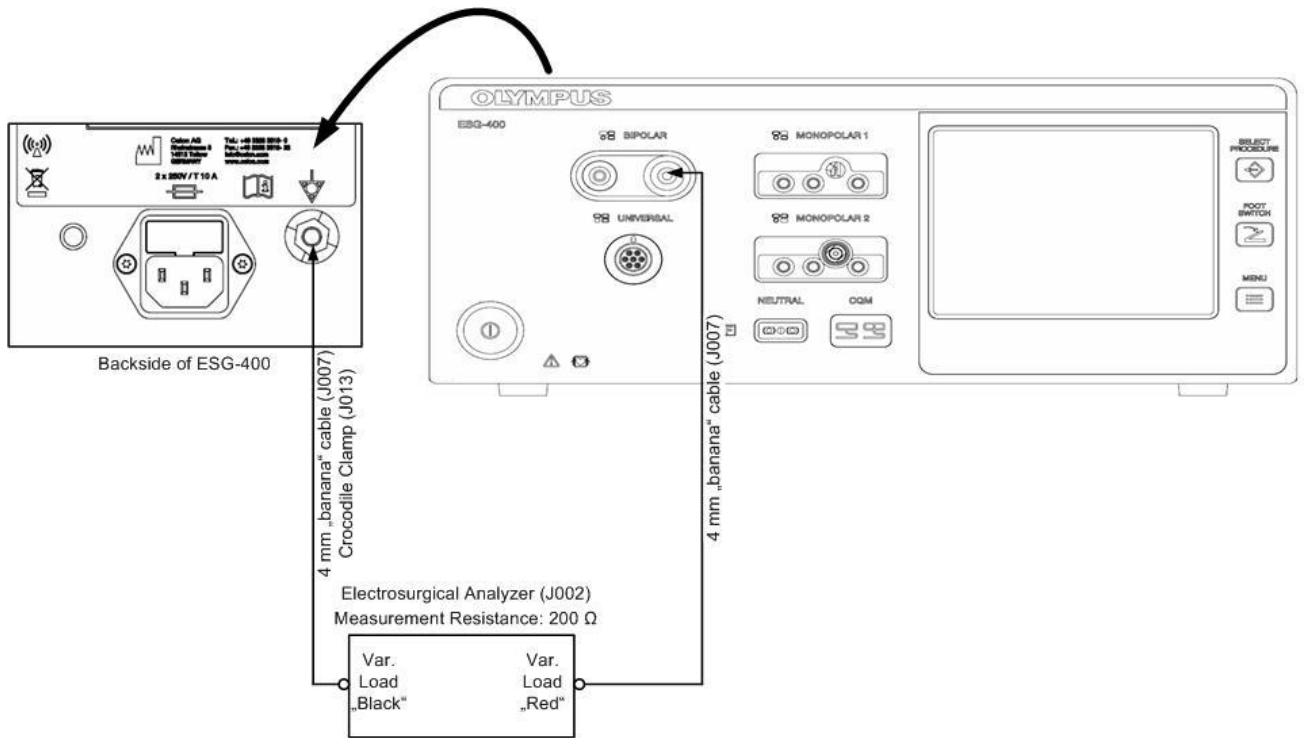
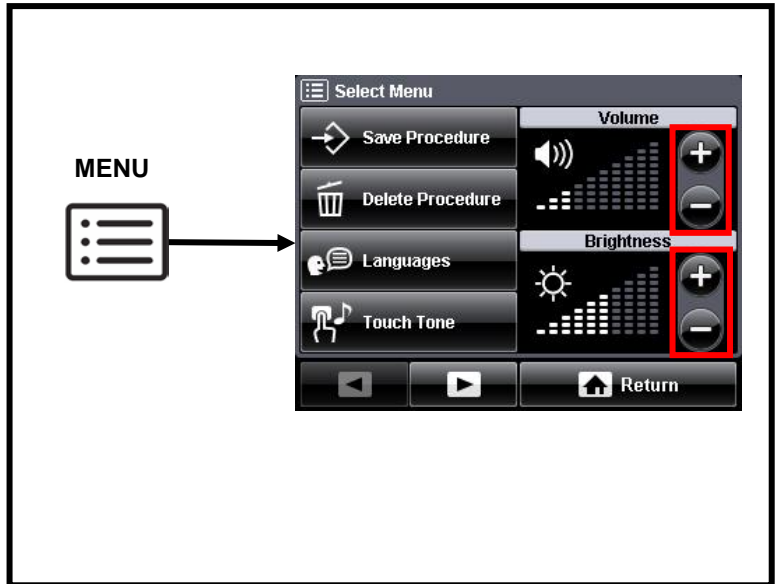

Fig. 5.2.10. Example for the unloaded measurement of the bipolar high frequency leakage current at terminal 2
Fig. 5.2.11. Checking volume and brightness
Fig. 5.2.10 and Fig. 5.2.11 are showing an example how to set up the test to measure the bipolar high frequency leakage current under unloaded condition. In this test the output is unloaded, the load resistance used in the test before is removed. The high frequency leakage current is floating from appropriate pole to the equipotential bonding port. It is measured via the electrosurgical analyzer via a measuring resistance of 200 Ω . Fig. 5.2.10 shows the measurement from terminal 1; Fig. 5.2.11 shows the measurement from terminal 2.
- 10) Set up the measurement according to Fig. 5.2.10 (Measuring of the high frequency leakage current under unloaded condition at terminal 1.)
- 13) Set up the measurement according to Fig. 5.2.11 (Measuring of the high frequency leakage current under unloaded condition at terminal 2.)